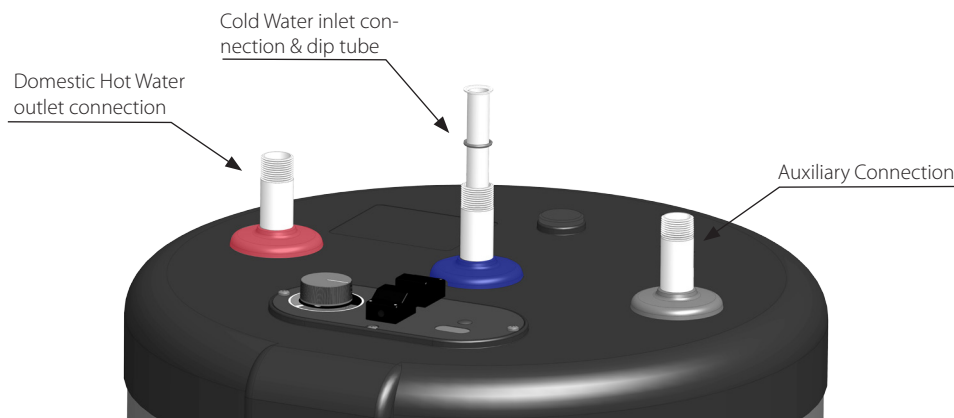

Fig. 3 - GINIUS Domestic Connection Arrangement
- Install T&P relief valve in the **Auxiliary** connection located on the right side of the water heater top cap (Refer to *Fig 3 below and Fig. 5 on page 7*).